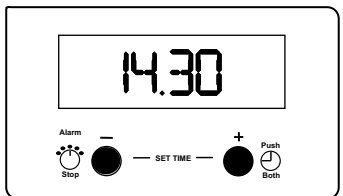

Fig. 4.
Within 5 seconds press and hold either button (1) to decrease or button (2) to increase the time until the correct time of day on the 24 hour clock is reached, e.g. 14.30. See Fig. 4.